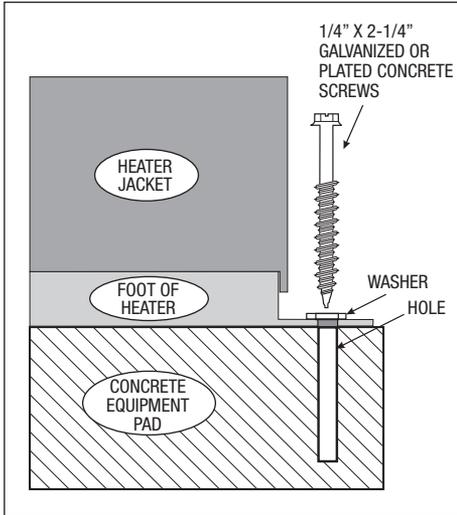

Figure 2. Anchor heater to equipment pad.
Mounting screws are not provided with this heater. After placing the heater on the equipment pad, drill a hole in the concrete at each of the four (4) tabs on the feet of the heater. (The correct size drill bit is usually provided with the concrete screws when purchased). Place a screw in each of the holes and fasten the heater to the equipment pad, see Figure 2. **Do not over torque the screws.**